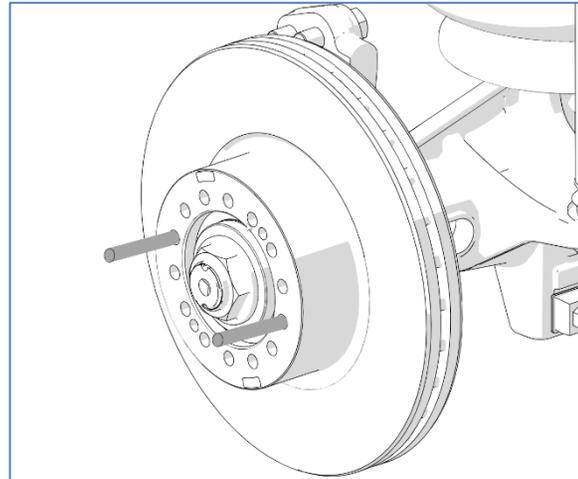

Figure 36
15. Install rotor onto hub bearing (Figure 36).